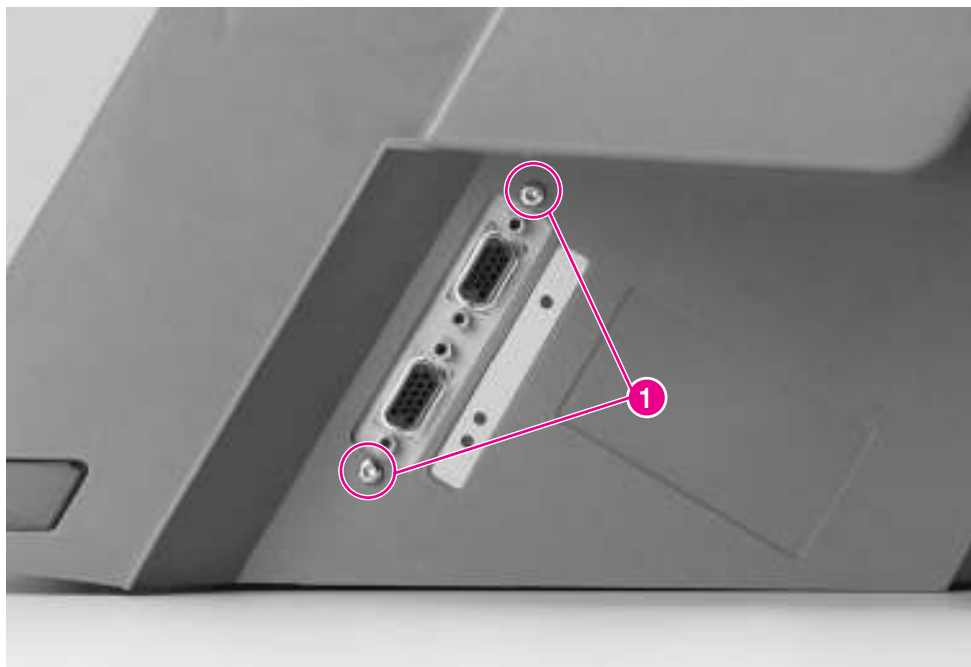

Figure 6-182 Stapler Controller PCA (1 of 3)
- 3 Remove 2 screws located on the right side of the Stapler (see figure 6-182, callout 1).